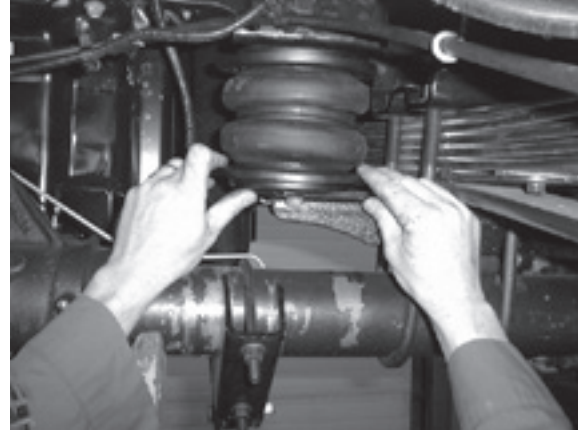

fig. 14
- As in the previous step, move the bottom bracket inward and outward so as to align it with the bellows and the upper bracket (Fig. 14).